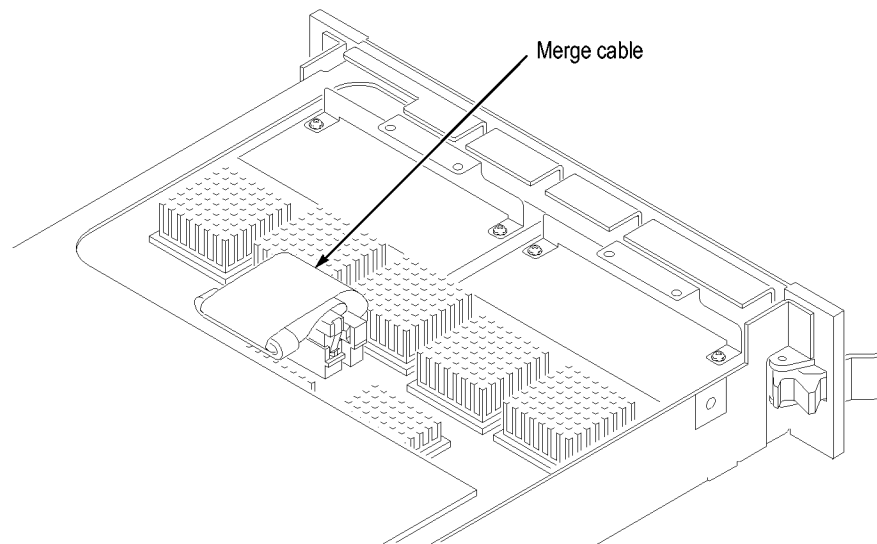

Figure 56: Positioning the merge cable before installing the cover
5. Position the merge cable. (See Figure 56.)